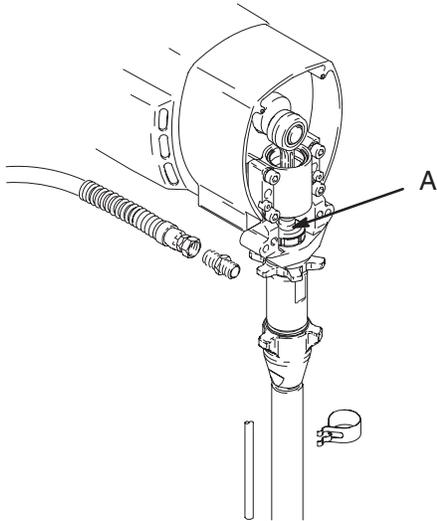

Fig. 13
1. Flush pump. Relieve pressure. Fig. 13. Cycle pump with piston rod (A) in its lowest position.
2. Fig. 13. Unscrew suction tube and hose from pump.